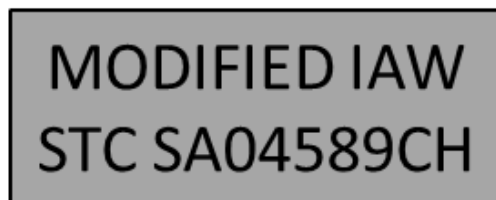

Figure 4: Required CSU & OSG placard (Hartzell P/N 109331)
- (18) Reinstall engine access panels removed in Step (7), and perform Steps (1) through (3) again.
- (19) Advance the power lever until propeller RPM stabilizes. Make a note of the RPM. Return the power lever to idle.
- (20) If required, adjust the propeller RPM by loosening the jam nut, and turning the max  $N_P$  stop screw until  $2,000 \pm 10$  RPM is achieved. A ½ turn on the max speed fine adjustment bolt results in approximately 10 RPM change. Turn the bolt clockwise to decrease RPM or counterclockwise to increase RPM.
- (21) Once the propeller RPM is within  $2,000 \pm 10$  RPM, torque the jam nut to 33-38 IN-LB, and re-safety the max  $N_P$  stop screw according to the Airplane Maintenance Manual. Additional engine controls rigging procedures may be found in Chapter 76 of the Airplane Maintenance Manual.
- (22) Ensure jam nuts and loosened retaining screws have been torqued to 33-38 IN-LB. Re-safety the skirt retaining screw, max NP stop screw, and feather stop screw according to the Kodiak 100 Airplane Maintenance Manual.
- (23) Clean the area highlighted as Region 1 (red oval area, see Figure 1), and firmly apply the provided placard (Figure 4).
- (7) Turn the maximum speed adjustment screw counterclockwise one turn.
- (8) Reinstall engine access panels removed in Step (5), and perform Steps (1) through (4) again.
- (9) If required, adjust the maximum speed adjustment screw until the Propeller Overspeed Governor Check results in a stabilized propeller RPM of  $1,880 \pm 50$  RPM. Turn the screw clockwise to increase the overspeed RPM, or counterclockwise to reduce the overspeed RPM.
- (10) Clean the area highlighted as Region 2 (red oval area, see Figure 6), and firmly apply the provided placard (Figure 4).